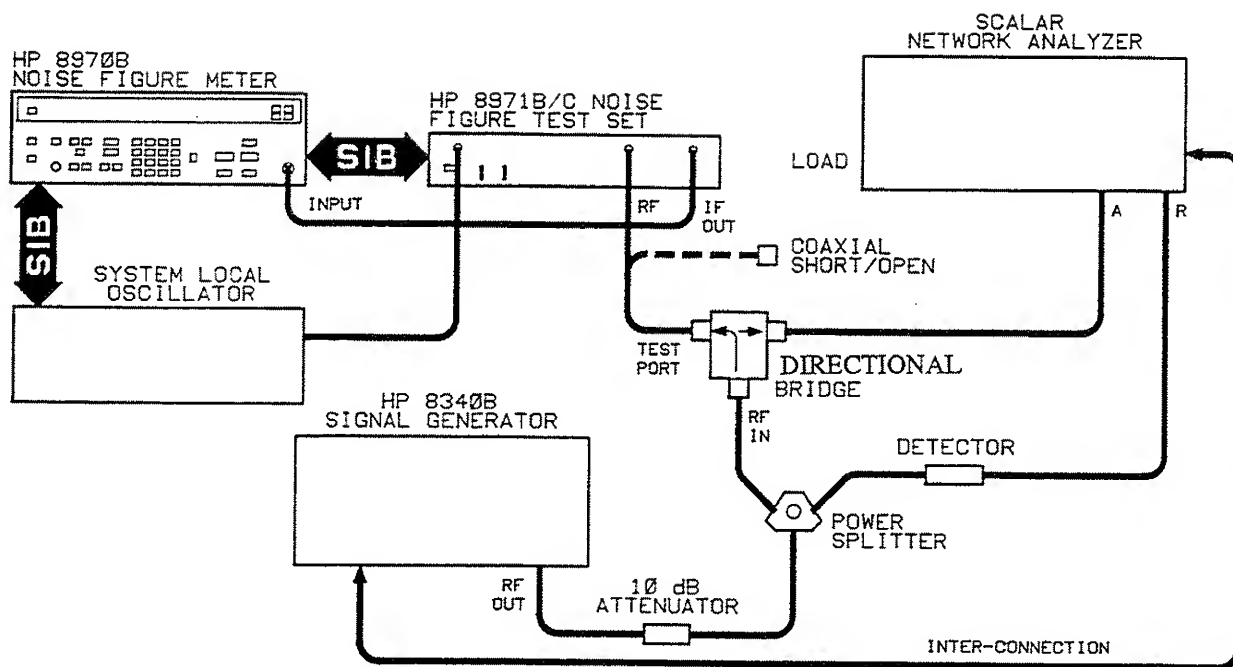

Figure 4-6. SWR Test Setup
6. A menu will appear. Press the **SHORT/OPEN** softkey. The HP 8757A menu will prompt you to connect a short (see Figure 4-6). Follow the directions on the menu. The short and open calibrations will only take a few milliseconds each.
18. A menu will appear. Press the **SHORT/OPEN** softkey. The HP 8757A menu will prompt you to connect a short (see Figure 4-6). Follow the directions on the menu. The short and open calibrations will only take a few milliseconds each.
25. A menu will appear. Press the **SHORT/OPEN** softkey. The HP 8757A menu will prompt you to connect a short (see Figure 4-6). Follow the directions on the menu. The short and open calibrations will only take a few milliseconds each.